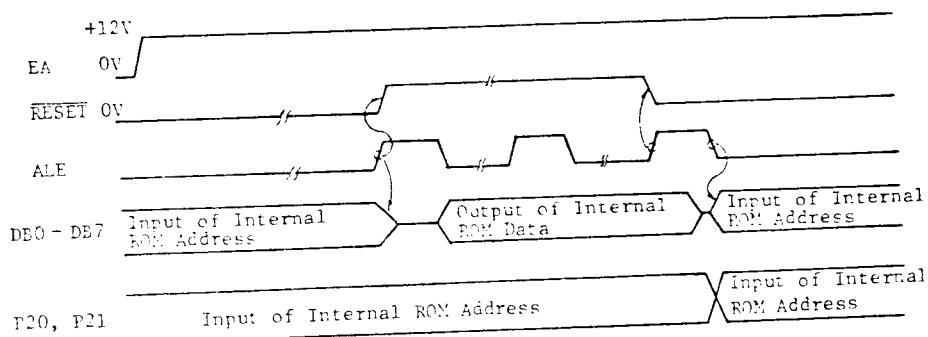

Fig.7 Timing of Reading Internal Program Memory
- . Figure 7 illustrates the timing diagram for this operation.
(5) Single Step Operation.